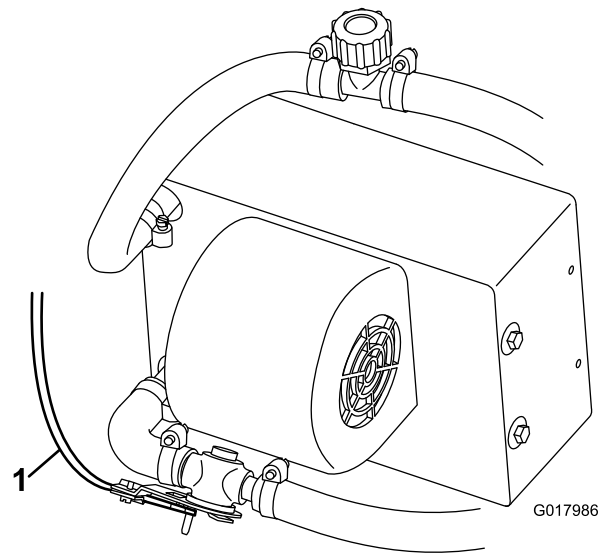

Figure 18
8. Route and connect the heater control cable to the heater valve (Figure 18).